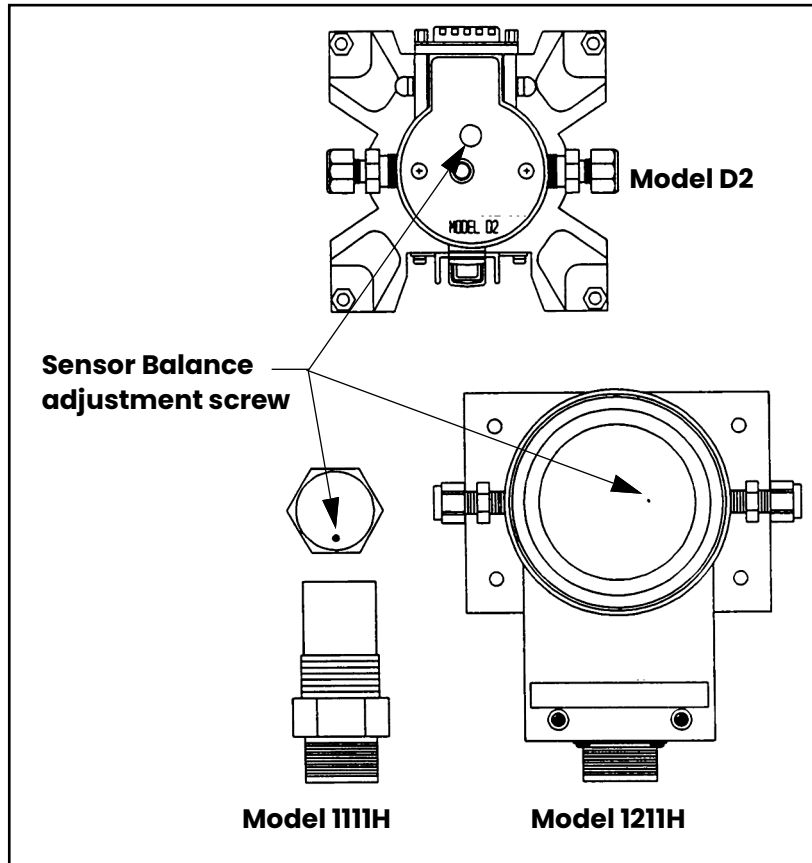

Figure 24: Balance Adjustment Screw Locations
5. If the square is not in the center of the balance bar, use the screw or hex driver to adjust the optical bias screw (shown in *Figure 24* below) on the sensor until the marker is in the center of the bar. You are performing a coarse balance adjustment.